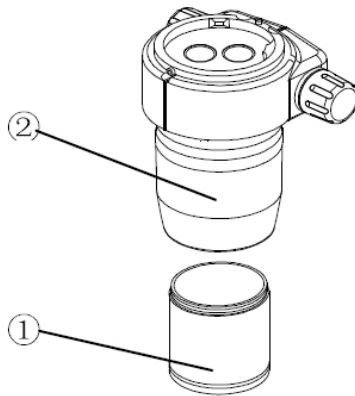
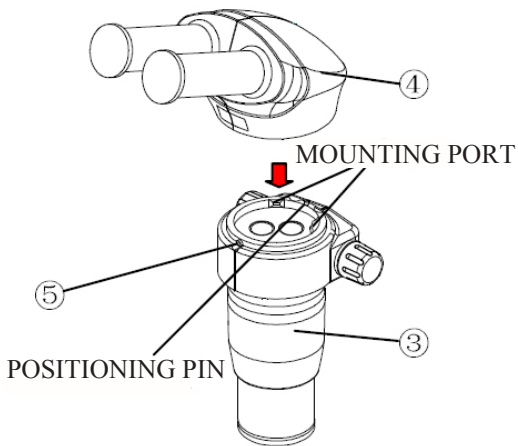

Fig.1
Fig.2
4.2.1 Mounting binocular viewing head (Fig.1, Fig.2)
1. Rotate the objective (1) into the objective mount thread on the lower end of the zoom body (2), as (3) in Fig.2.
2. Aligning the positioning pin of the zoom body (3) to the positioning groove on the binocular viewing head (4), insert the dovetail mount at the bottom of the viewing head into the mounting port on the zoom body (3), and tighten the viewing head clamping screw (5) with provided hexagonal driver.